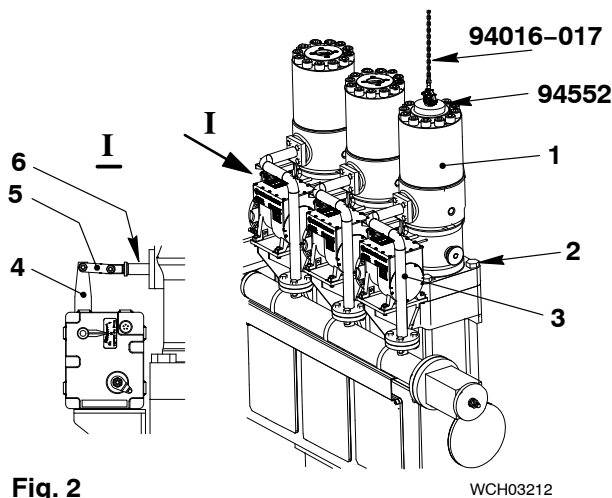

Fig. 2
- 2) Disconnect the applicable oil pipe (3, Fig. 2).
- 4) Disconnect the connecting element (5) between toothed rack (6) and the actuator lever (4).
- 5) Remove the screws (2) from the fuel pump (1).
- 8) Carefully lift the fuel pump (1).